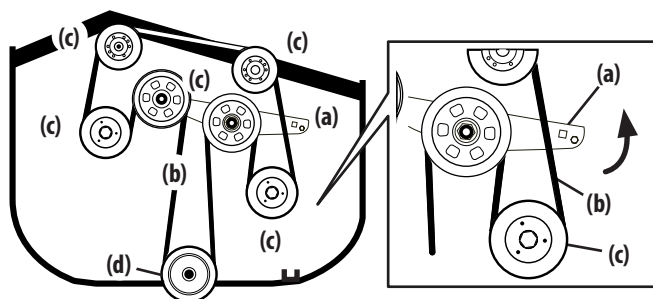

Figure 35
- Using a 1/2" (12.7 mm) drive in the idler pulley bracket (a), turn the wrench towards the front of the mower and slide the PTO belt (b) off the deck pulleys (c) and the PTO clutch (d) (Figure 35).